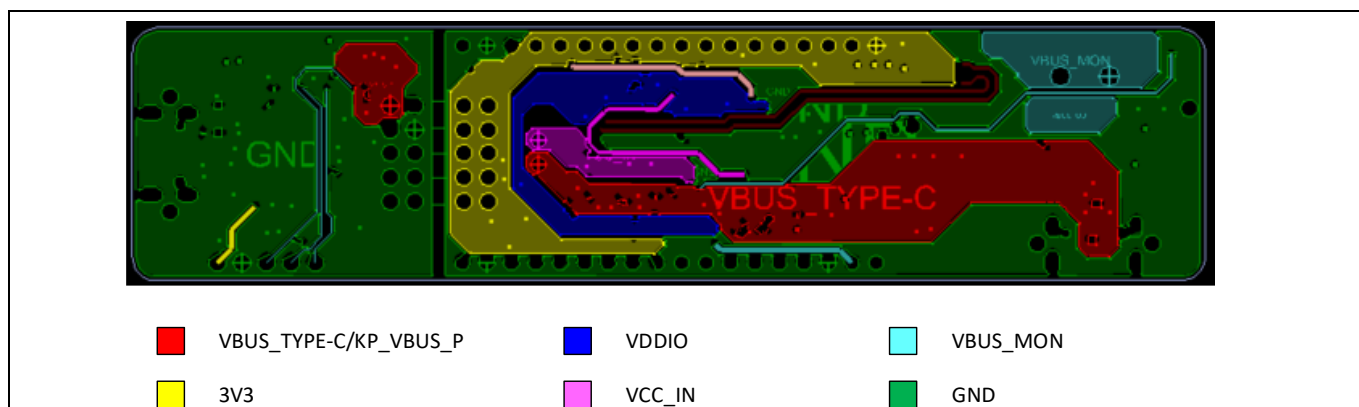

Figure 28 Power plane (Reference: EZ-PD™ PMG1-S1 MCU kit)
- Use cutouts on the power plane if more than one voltage is required on the board. **Figure 28** shows the cutouts on power plane, and various power domains are marked in different colors.